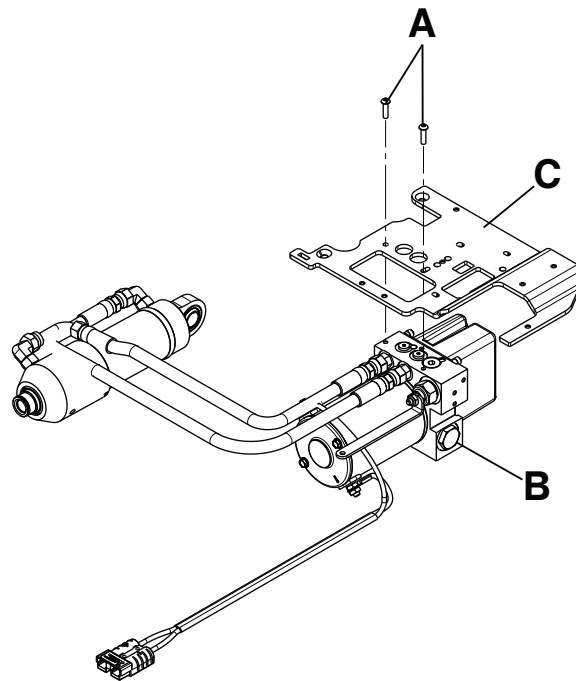

Figure 21 – Hydraulics assembly
6. Using a T25 Torx driver, remove the two screws (A) that secure the hydraulics assembly (B) to the wing plate, left (C) (Figure 21).